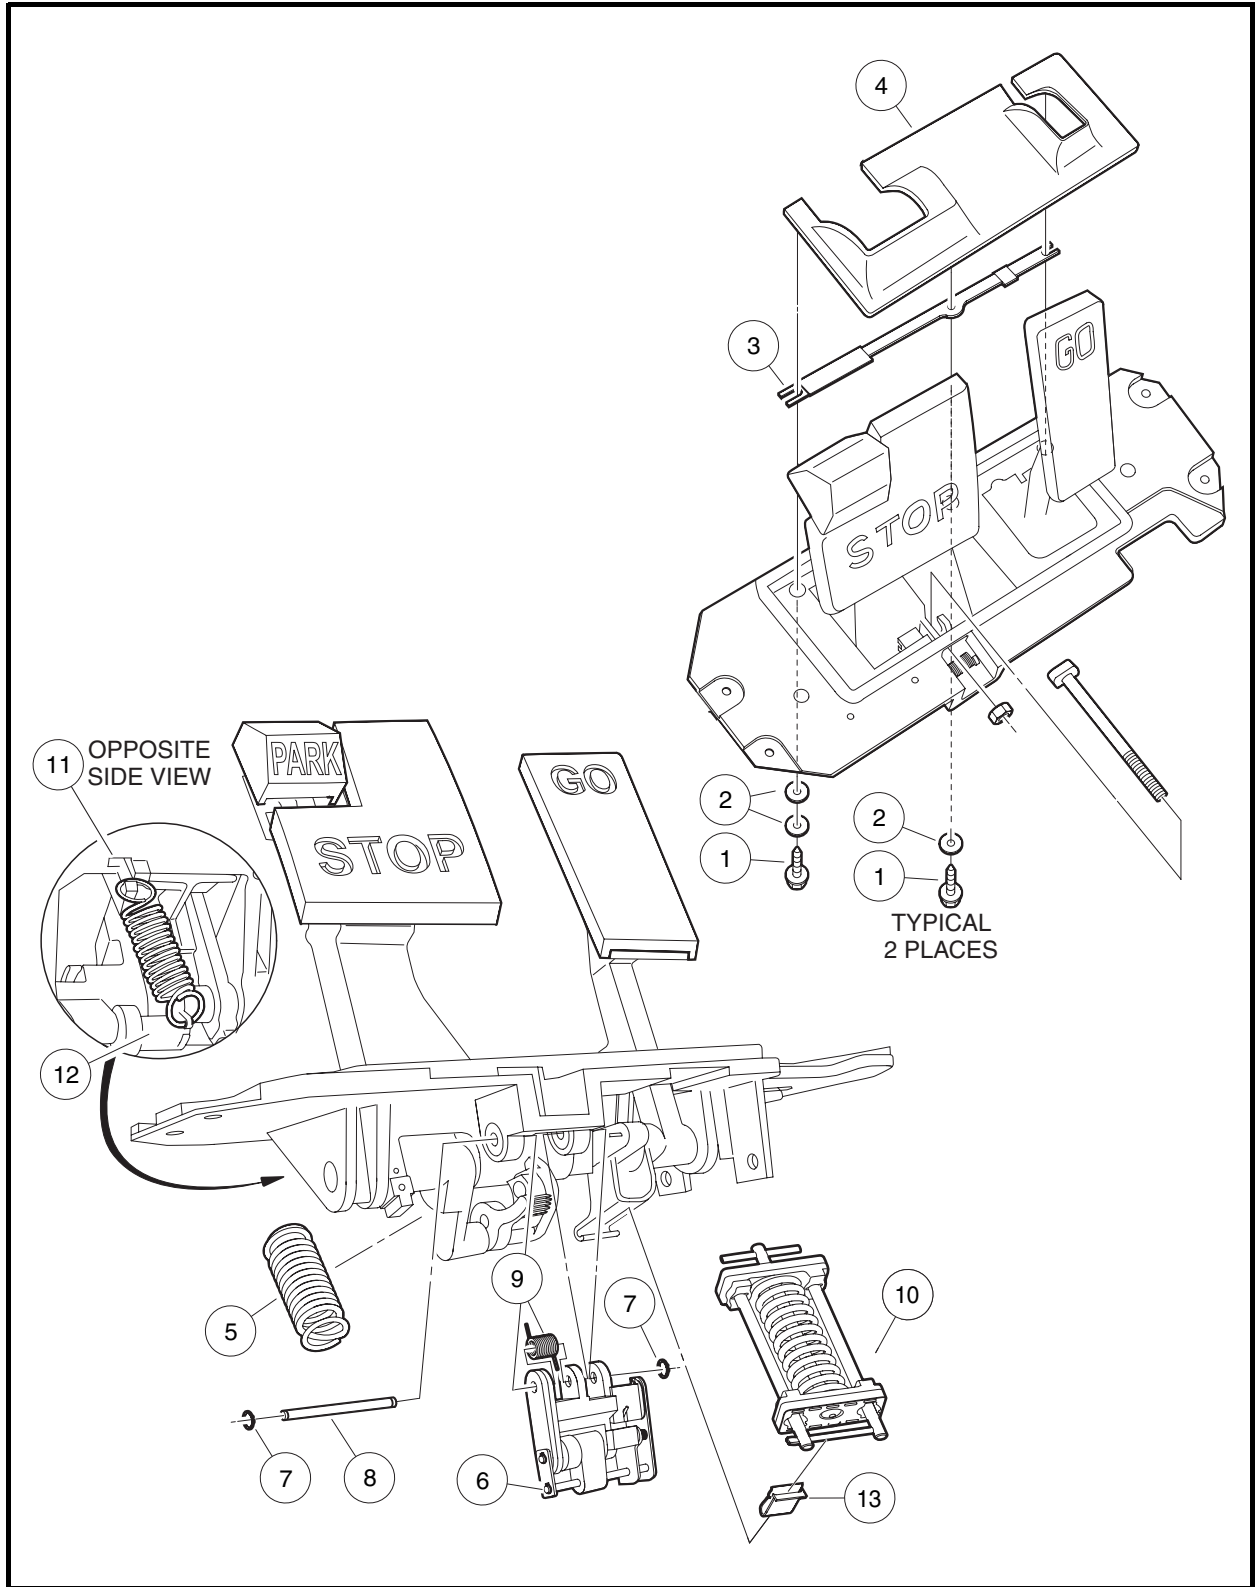

Figure 5-4 Pedal Group
Debris shields on the top face of the pedal group prevent excessive debris from contacting the moving parts of the pedal group. Both shields (3 and 4) are held in place with screws (1) and washers (2) (**Figure 5-4, Page 5-5**). When shields are replaced, tighten screws (1) to 53 in-lb (6 N·m).
The brake return spring (5) provides the pressure needed to return the brake pedal to its upright position (**Figure 5-4, Page 5-5**). One end of the spring attaches to a hook on pedal (11) and the other end attaches to pedal base (12).
The pawl assembly (6) serves to lock the brakes when the PARK pedal is pressed. The pawl assembly also releases the brakes when either the STOP or GO pedal is pressed (**Figure 5-4, Page 5-5**). The pawl assembly is serviced as a unit. The replacement unit includes two snap rings (7), pin (8), spring (9), and pawl unit (6). When replacing the unit, ensure spring (9) is properly positioned to be held in place when the pin (8) is installed. Secure the pin with two snap rings (7).
The accelerator return spring assembly (10) consists of a spring and a T-shaped bar secured by a crosspin (**Figure 5-4, Page 5-5**). The assembly is replaced as a unit. The replacement unit includes a pin that keeps the spring compressed so it can be installed in the pedal group. Replace the assembly as follows: